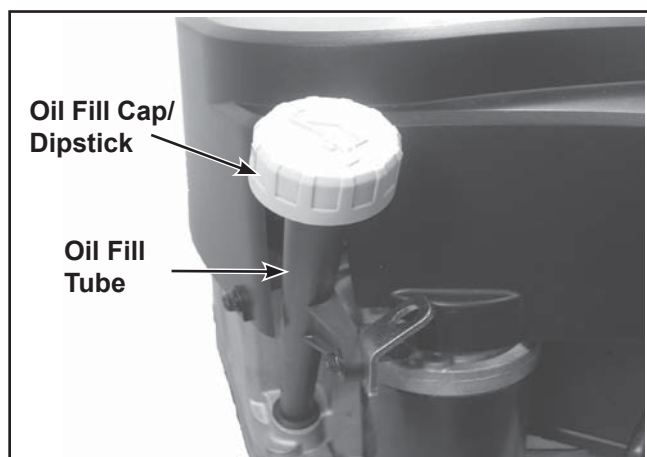

Figure 6-2. Oil Fill Cap/Dipstick and Oil Fill Tube.
2. Clean the area around and the under side of the oil fill cap/dipstick before removing it. This will help to keep dirt, grass clippings, and other foreign matter out of the engine. See Figure 6-2.